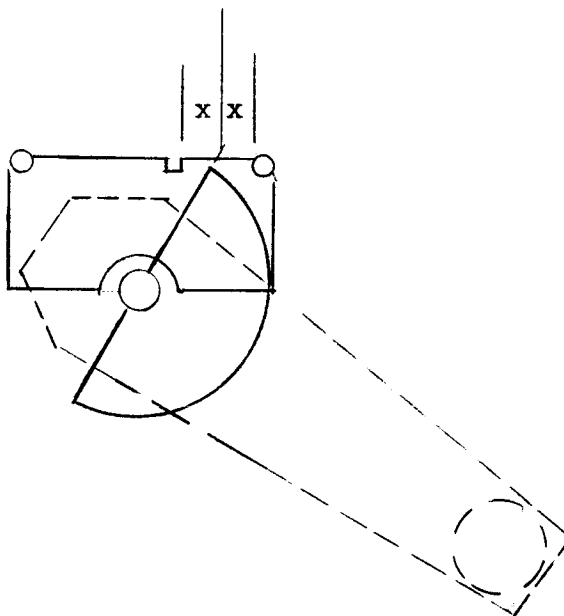

Fig 3
8. Without disturbing the main condenser setting as outlined in steps 5&6 the compensating condenser C302 is adjusted. The rotor plates of C302 should be rotated to a point where a line from the end of the rotor plate bisects th distance betw en the notch on the stator plate and th point where the stator plate is attached to its support. Fig 3.